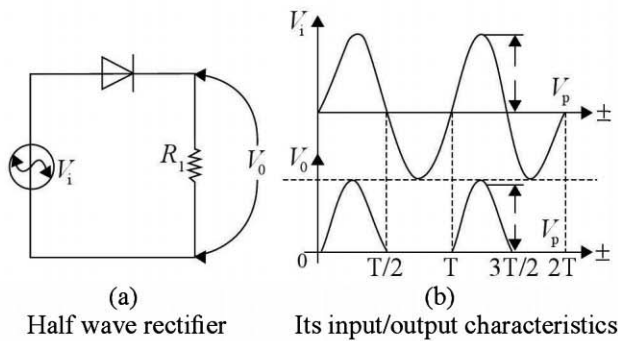

Fig. 19.9
**Half-wave rectifier** Fig. 19.9 (a) illustrates half wave rectifier and Fig. 19.9 (b) shows the input/output characteristics.